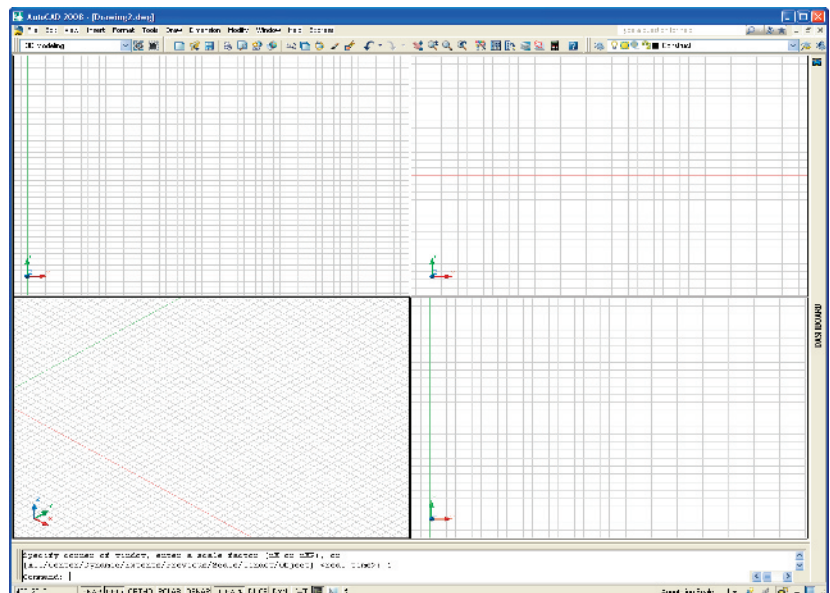

Fig. 14.3 The **Four: Equal** viewports layout
4. Click the **OK** button of the dialog and the AutoCAD 2008 drawing area appears showing the four viewport layout (Fig. 14.3).